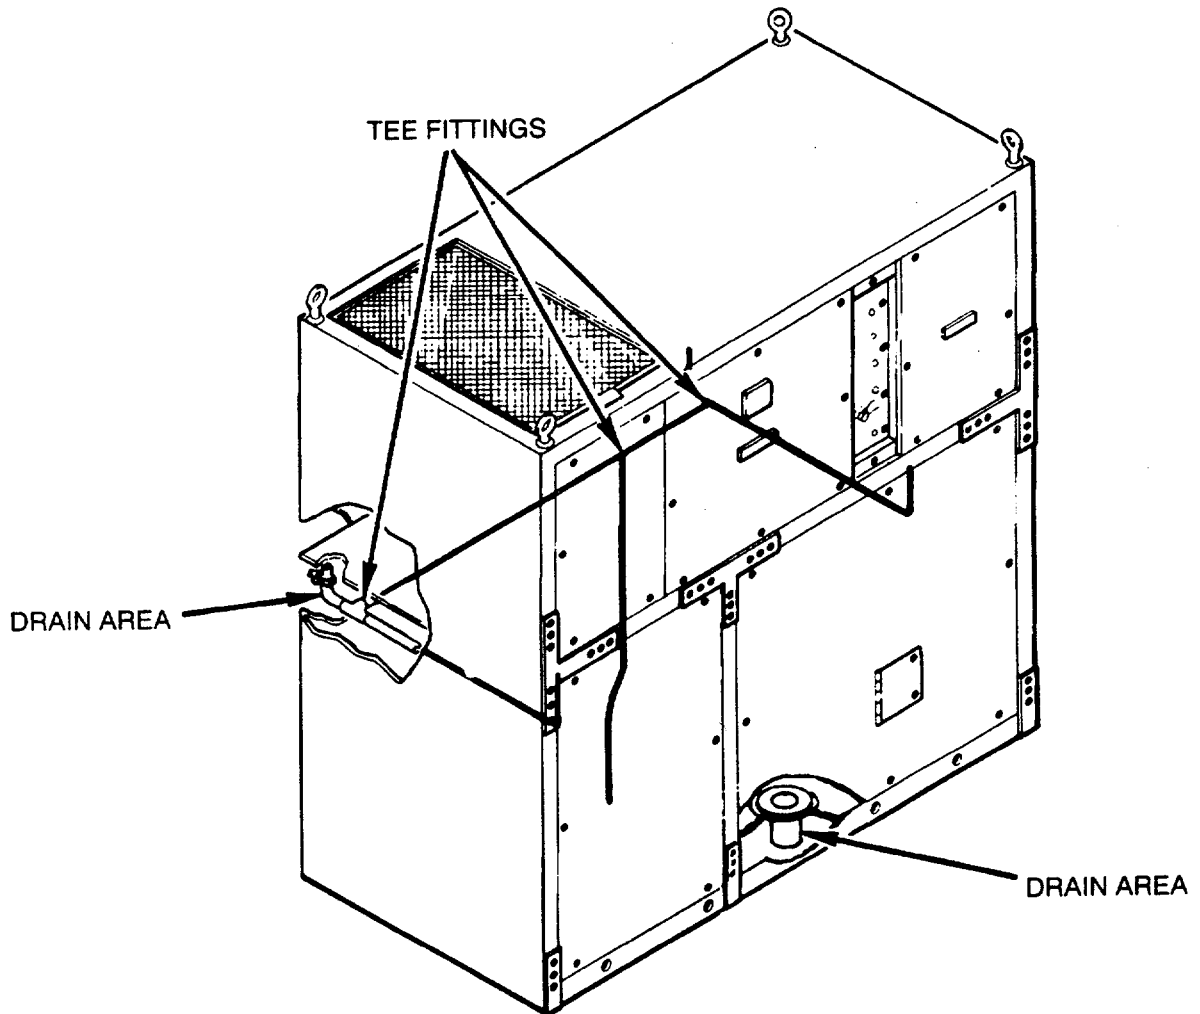

Figure 4-92. Drain Areas
1. Check that drain areas are clean (see Figure 4-92).